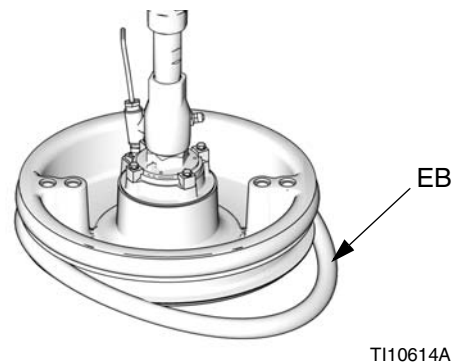

FIG. 14
1. Using a wooden or plastic tool to prevent damage to the wiper (EB), clean all material from seal grooves.
2. *Working from the bottom*, angle one wiper (EB) over back of platen. See FIG. 14.
3. Insert wiper (EB) in top groove and run front of wiper into groove.
4. Insert second wiper (EB) in lower groove and run front of wiper into groove.